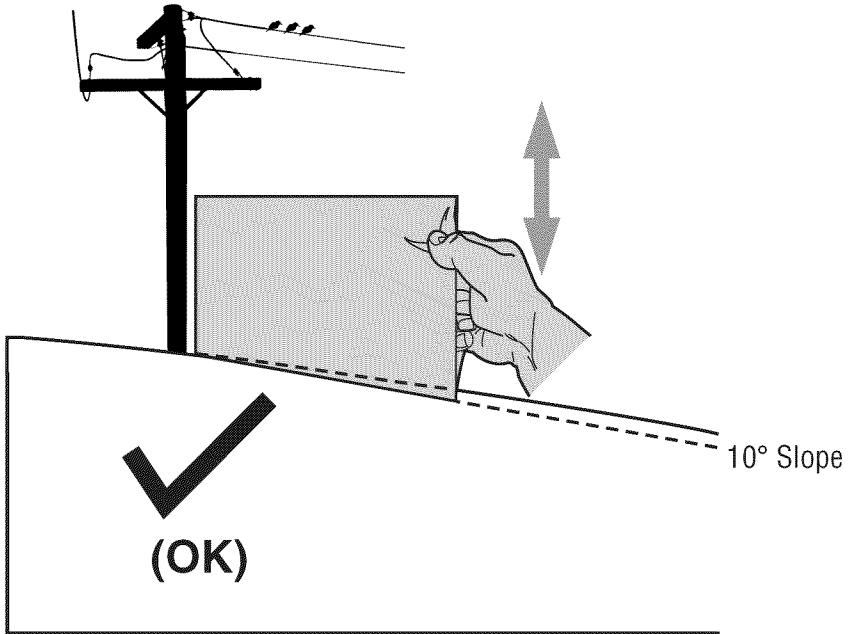
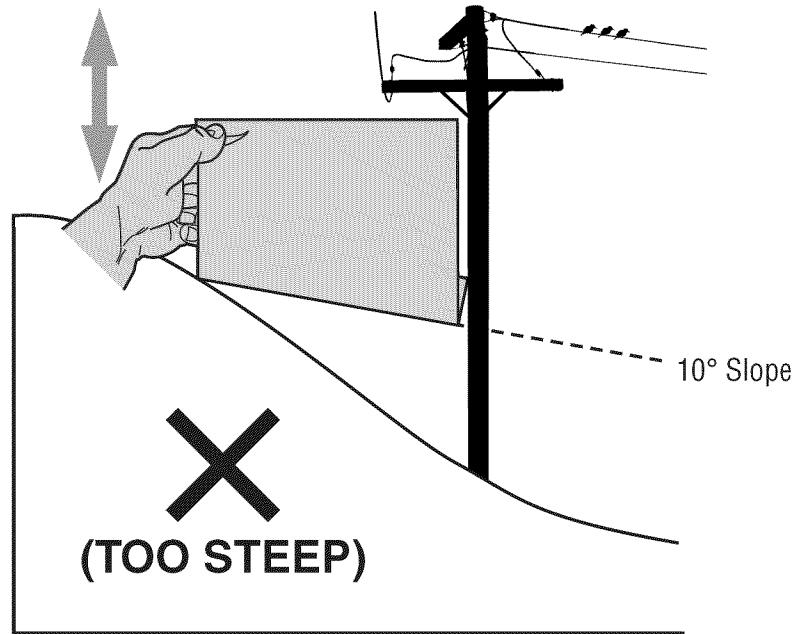

Figure 1
Figure 2
3. Align either side of the slope gauge with the object (See Figure 1 and Figure 2 ).
4. Adjust gauge up or down until the left corner touches the slope (See Figure 1 and Figure 2 ).
5. If there is a gap below the gauge, the slope is too steep for safe operation (See Figure 2 above).